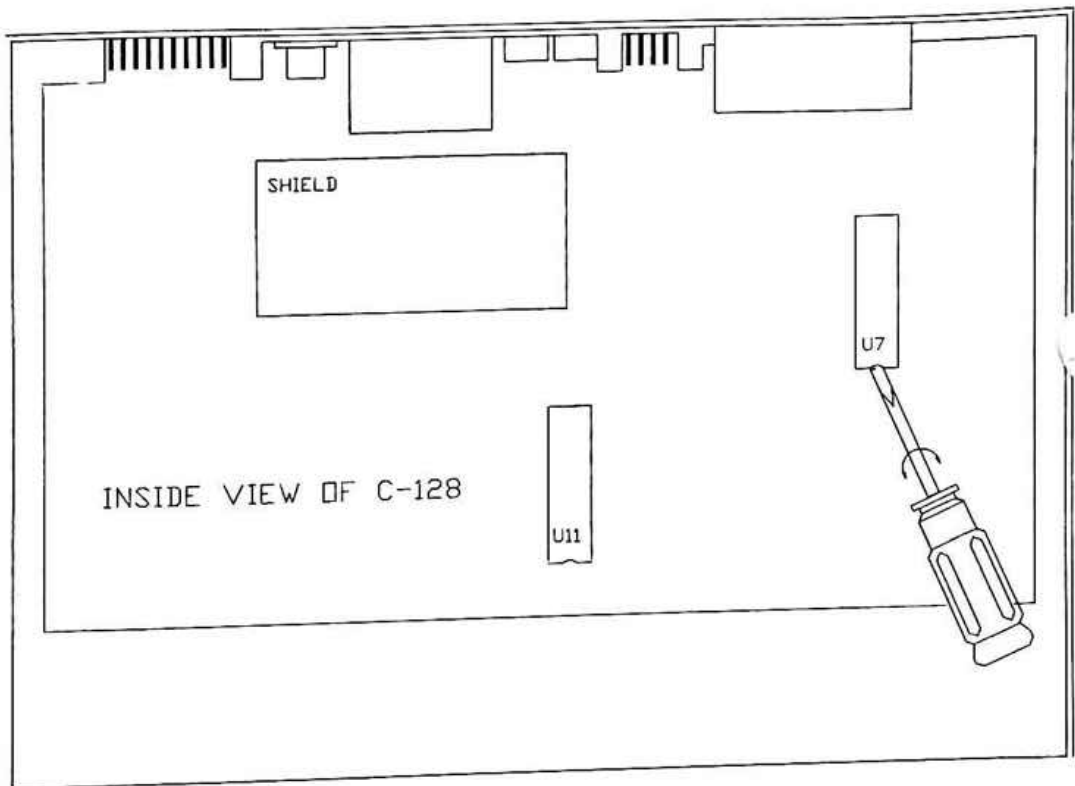

FIG. 6
Step 4 - Locate chip U7 in FIG 6. Gently remove this chip from its socket by inserting a small flat blade screwdriver as shown and then carefully rotate or twist the blade left and right. DO NOT USE A PRYING ACTION! Once removed, check all pins for straightness, and proceed to next step.